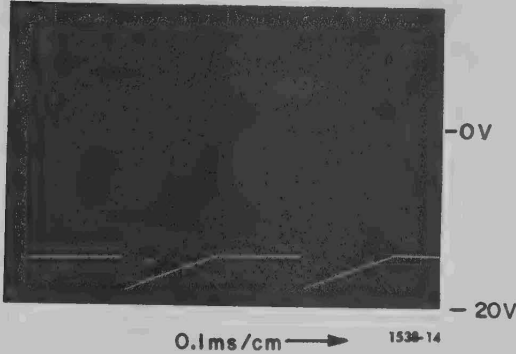

Figure 4-5. Voltage waveform at A.T.65 (24,000 RPM).
(f) With the correct voltages at A.T.9 and A.T.30, observe the waveform at A.T.65 (see Figure 4-5). If it is incorrect, the trouble is in the 200 μ sec monostable circuit.
f. Compare the waveforms at A.T.65 and A.T.63 with those given in Figures 4-5 and 4-8, respectively. Improper waveforms indicate trouble in the flip-flop circuit (Q107 and Q108).